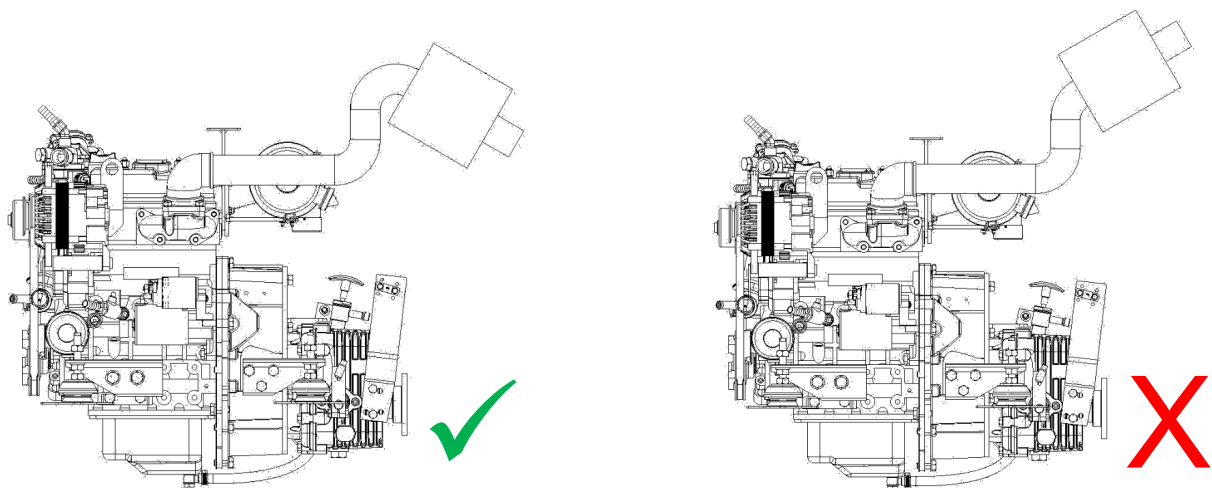

Figure 12: Correct Installation of Exhaust
- Make sure the exhaust increases then decreases in height as shown in (Figure 12).